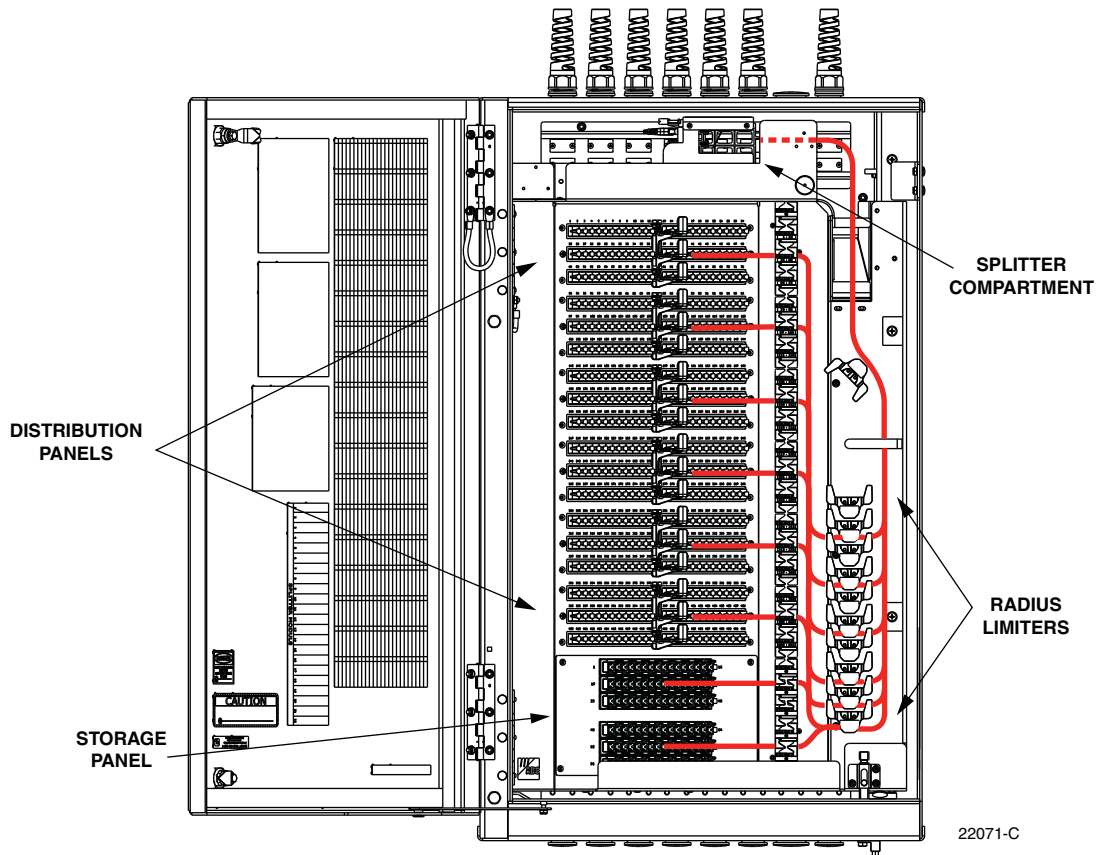

Figure 50. Routing Splitter Output Fibers
3. Use the radius limiters on the right side of the cabinet to store any excess fiber slack. Refer to Figure 50 for the routing guidelines.
6. Use the radius limiters on the right side of the cabinet to store any excess fiber slack. Refer to Figure 50 for the routing guidelines